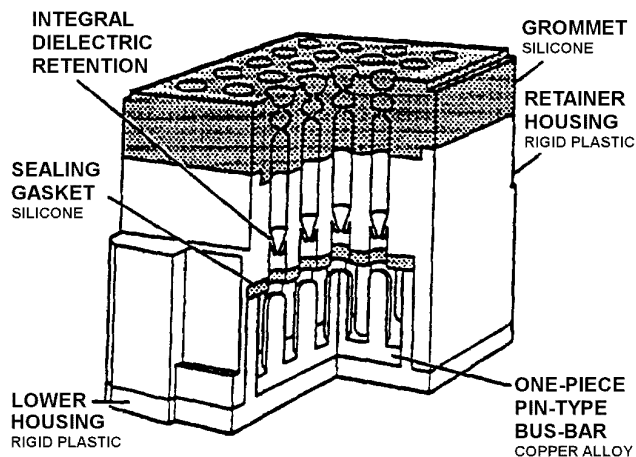

Figure 2. TJS Block
14. BLOCK. A block consists of one or more bussing modules. The internal structure of a typical block is shown in Figures 2 and 3.